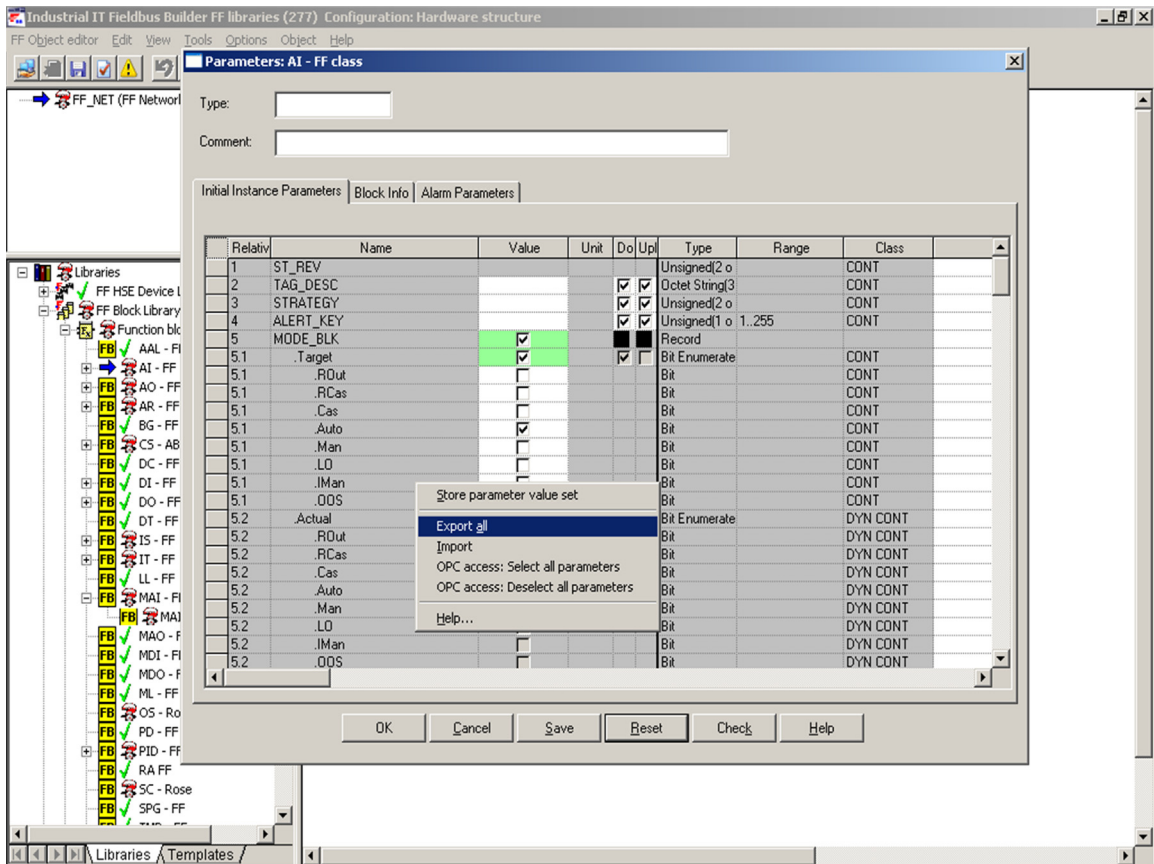

Figure 4. Exporting Locally Stored Parameter Value Sets
8. Right-click and select **Export** from the context menu (Figure 4).